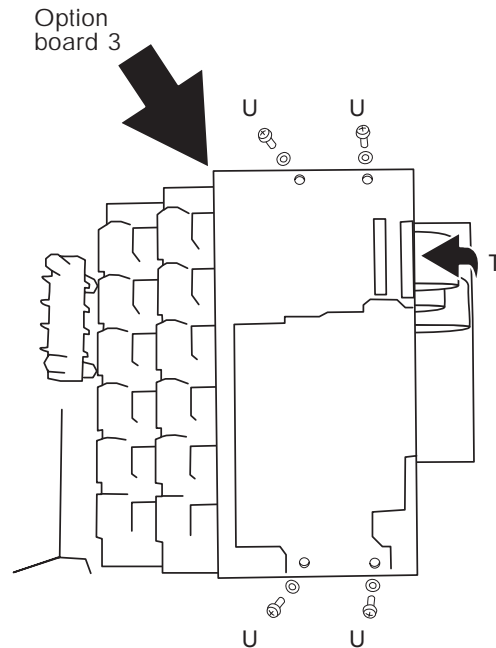

Figure 2.2.5 Fitting option board 3
2. Fit the option board, as shown in figure 2.2.5, and secure it with four M3 x 8 screws (U) and shakeproof washers.